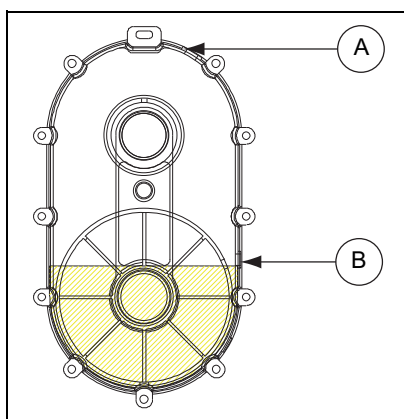

Figure 4A Enclosed Drive
1. First, fill the chain reducer drive with oil by removing the vented fill plug and pouring 48 oz. of oil into drive. Oil level can be checked by removing the check plug. Oil should not be over the check plug. *(See Figure 4A.)*
2. Install pivot bracket (O) to bottom of motor mount frame (N) using a 3/4" x 11" long (grade 5) hex head cap screw and nylon lock nut (P).
3. Attach the electric cord support stand (E) and one side of the motor mount support plate (H) to the motor mount frame (N) using two (2) 1/2" x 1-1/2" long (grade 5) hex head cap screws with lock washers and hex nuts (J). Attach the other side of the motor mount support plate (H) to the motor mount frame (N) using two (2) 1/2" x 1-1/4" long cap screws with lock washers and nuts (I).
4. Mount the chain reducer drive (K) to the mounting ring on the motor mount frame (N) with four (4) 3/8" x 1" long (grade 5) hex head cap screws and nylon lock nuts.
5. Screw the 3/4" threaded adjusting rod (G) down through the nut welded to the top of the motor mount support plate (H). Leave the adjusting rod (G) an inch or two (2) above the top surface of the motor mount support plate (H). The adjusting rod will be adjusted later after the drive belts are installed.
6. Thread a 3/4" hex nut onto the bottom end of the adjusting rod (G) underneath the motor mount support plate (H). This nut is for locking the adjusting rod in place after adjusting it to the required position to tighten the drive belts. **DO NOT** tighten this nut against the motor mount support plate until the belts have been installed and tightened.
7. Align the pivot holes (D) of the motor mount plate (C) with those in the motor mount support plate (H) and slide the pivot rod (F) through the holes. Insert a 3/16" cotter pin into the holes in each end of the pivot rod (F) to keep it in place.